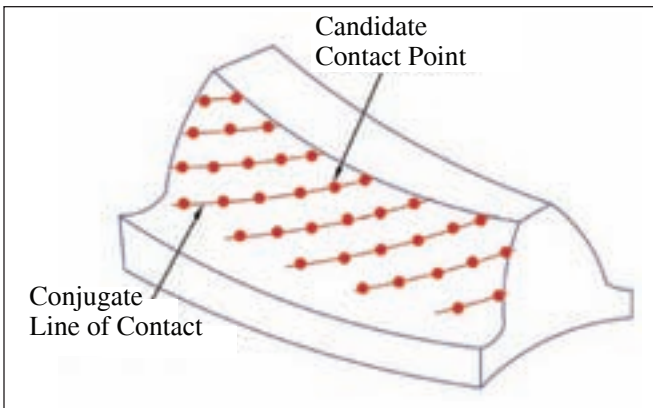

Figure 11—Conjugate lines and contact points on the gear tooth surface.
(2) Loaded contact is assumed along the conjugate line of tooth contact, which is close to the major axis of the contact ellipse (Fig.11). Therefore, the conjugate contact lines on the gear and pinion tooth surfaces are generated and represented by discrete points, which are the potential candidate contact points under load.
(3) The governing equations are derived by using the general concept of flexibility matrix approach, namely,